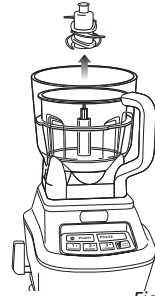

Fig. 7
- 11 Carefully hold the mini prep bowl blade by the shaft and lift it out of the mini prep bowl. (Fig. 7)